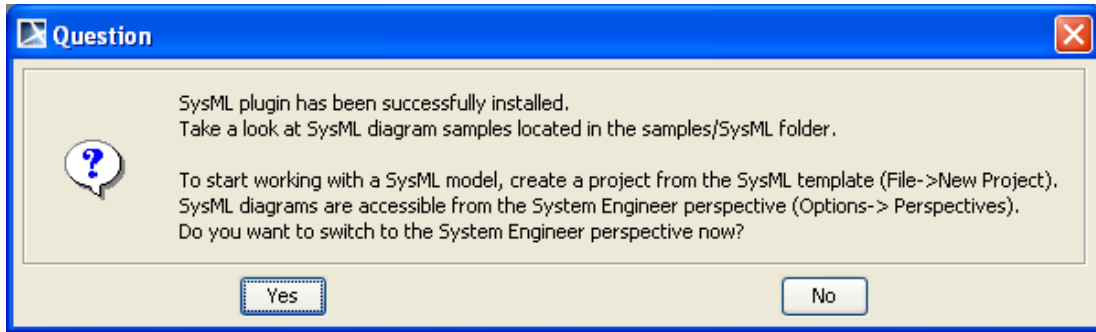

Figure 1 -- Launching MagicDraw with SysML Plugin Message Dialog
1. The following message dialog will open (Figure 1).